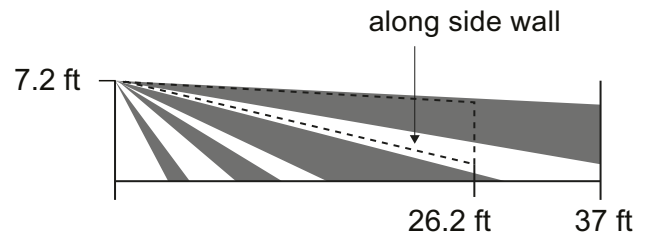

Figure 2 Remove the EN1263 from the mounting bracket
3. Remove the EN1263 from the mounting bracket per Figure 2.